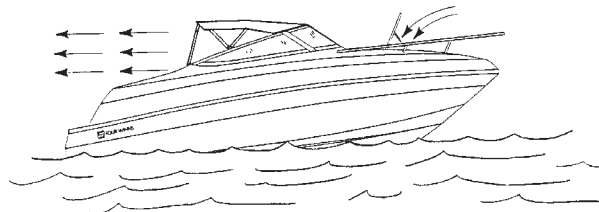

Figure B-11: Desired air flow through the boat.
4. Opening and closing ports, hatches, doors, and windows may raise or lower CO levels on board a boat. When airflow is moving forward inside the boat, CO may be entering the boat. See Figures B-11 and B-12.